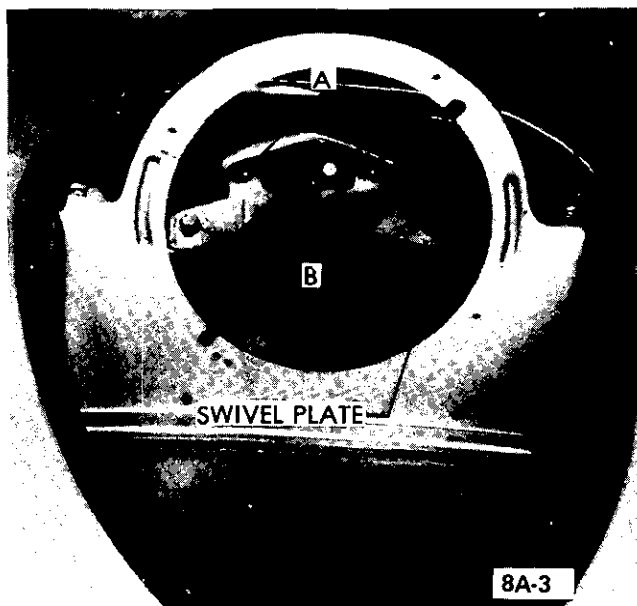

Figure 8A-3 Headlamp Assembly Rear Adjustment Location
- c. To align rear of assembly vertically loosen bolts indicated (A) in Figure 8A-3.